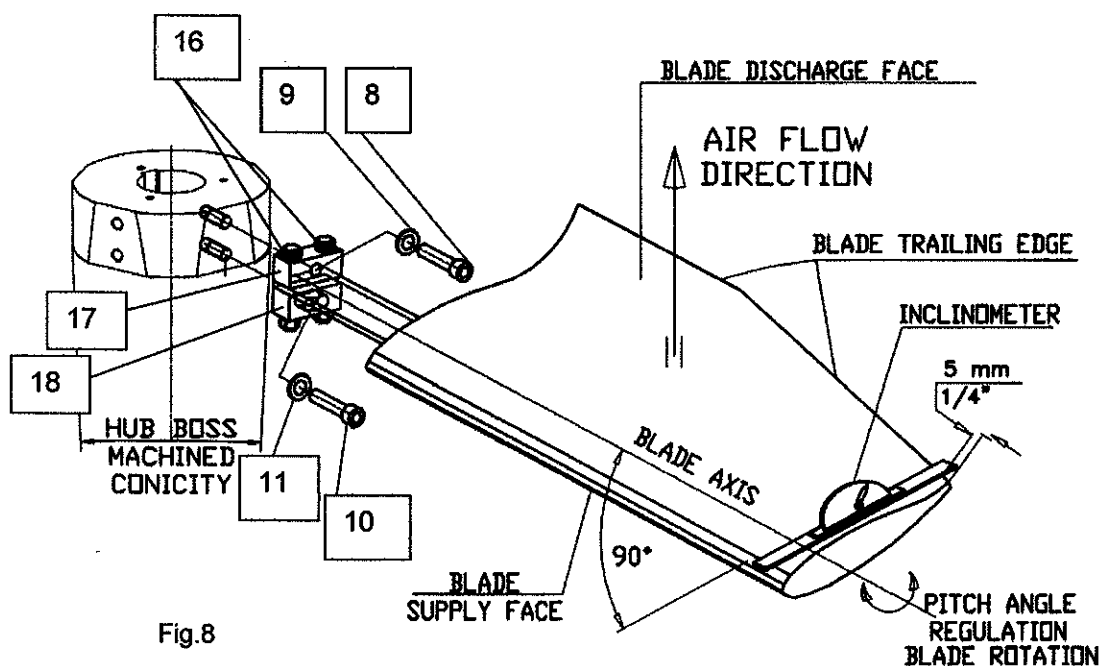

Fig.8
- Fit blade to hub by blade fasteners (socket heads screws (8) (10), washers (9) (11)) as indicated in Fig.8 but not tightening screws. We suggest applying on these bolts adhesive thread lock, strong grade, type Loctite 270 or equivalent (not mandatory).